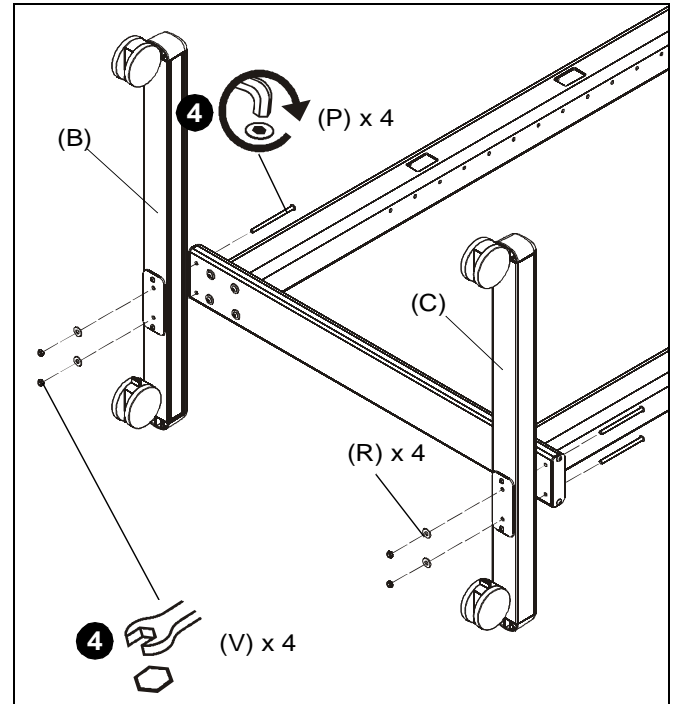

Figure 2
4. Use four 5/16-18 x 5" button head cap screws (P), four 5/16" washers (R) and four 5/16-18" lock nuts (V) to secure right and left legs (B and C) to cross bar (A). (See Figure 2)